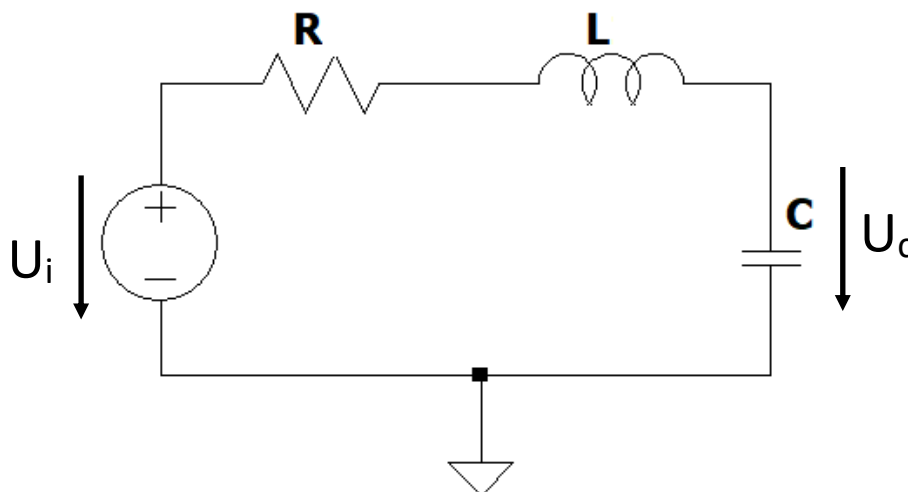

Figure 1: RLC series circuit
- To be able to model the RLC circuit presented in chapter 3 (see Figure 1) in Simulink, you need to derive the ordinary differential equation first, that describes this circuit.
1. Redraw the circuit diagram given in chapter 3 figure 1 using the circuit simulation program "LTSpice"